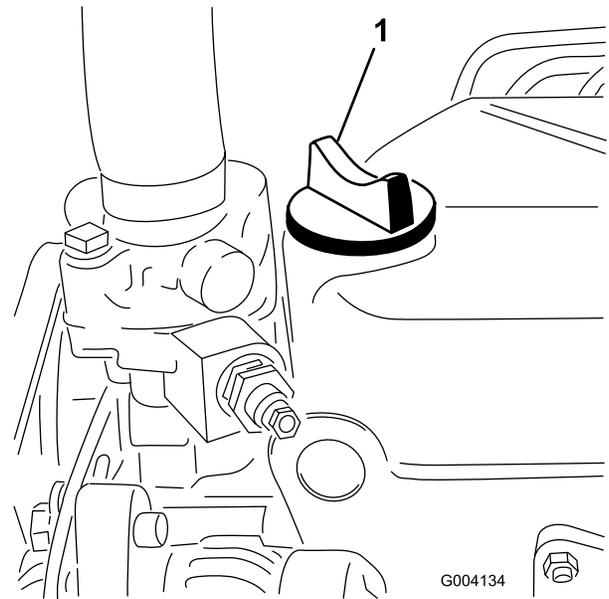

Figure 27
5. If the oil level is below the Full mark, remove the fill cap (Figure 27) and add oil until level reaches the Full mark on dipstick. **Do not overfill.**